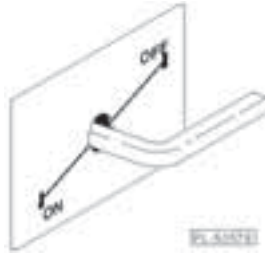

Fig. 7
3. Open access door; turn the gas valve extension arm located inside the cabinet door to OFF (Fig. 7). Wait 5 minutes for unburned gas to vent.